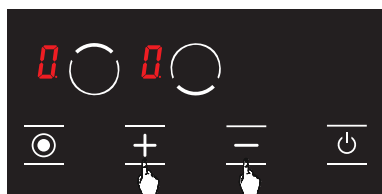

Figure 7
3. Power level of the relevant hob may be set from 1 to 9 using the  and the  keys or from  to 9 as per the option of the stove. (See Fig. 7)